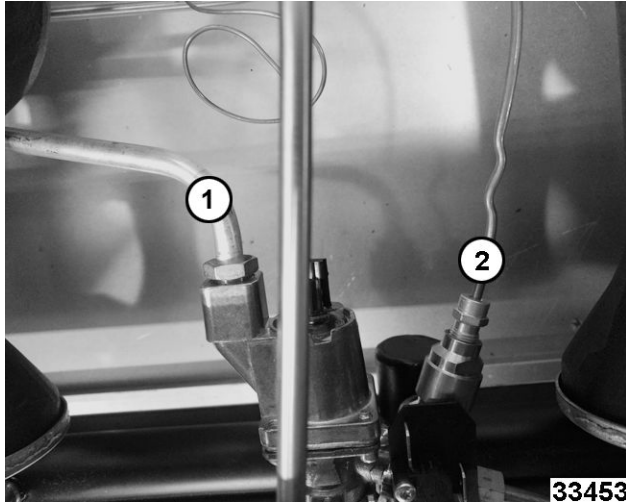

Fig. 19
- A. Gas outlet to burner (1, Fig. 19).
- B. Thermocouple to oven burner. (2, Fig. 19)